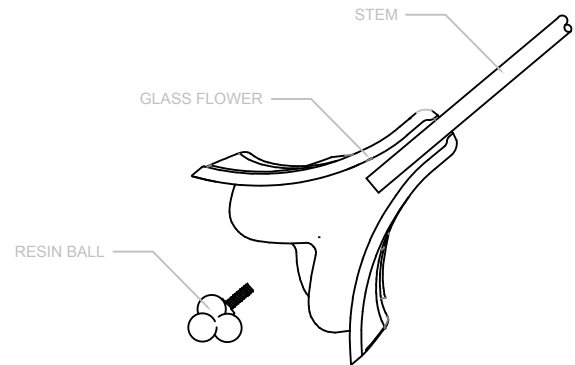

FIGURE-07
15. Insert the frosted glass flower to stems labeled with frosted and lock them using the resin ball. (See Figure -07)
16. Insert the bubbles glass flower to stems labeled with bubbles and lock them using the resin ball. (See Figure -07)
17. Insert the clear glass flower to the unlabeled stems and lock them using the resin ball. (See Figure -07)